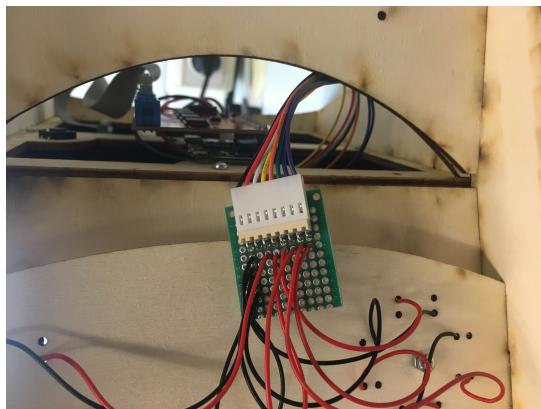

Figure 3.27: Connecting the Raspberry Pi to the buttons
Step 2 Use the connectors to connect the buttons of the base to the Raspberry Pi, as shown in Figure 3.27.